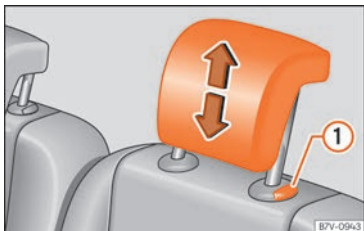

Fig. 157 Fitting the head restraints in the second or third row of seats
- Pull out the head restraint »» » **Fig. 157 ①** with the button pressed.